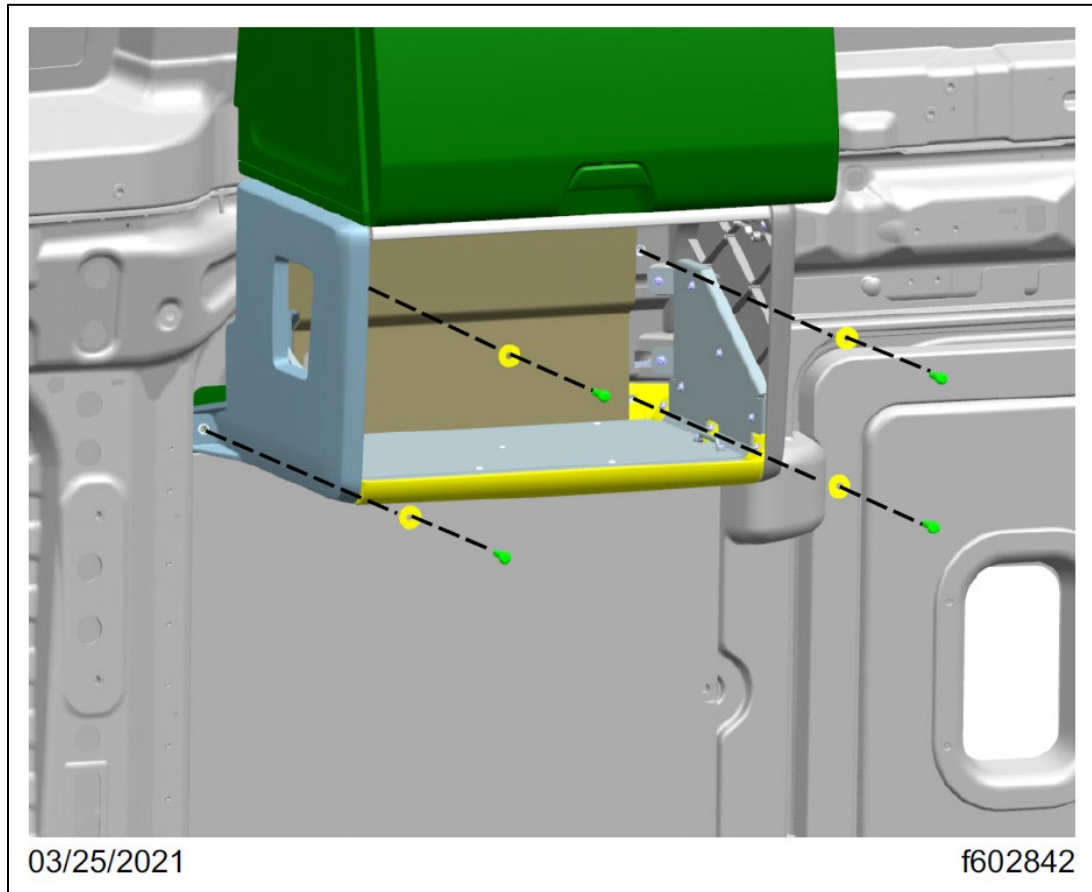

Fig. 39, Fasteners That Attach the Microwave Cabinet to the Sidewall
5.3. Remove the four fasteners that attach the microwave cabinet to the cab wall. See Fig. 39.